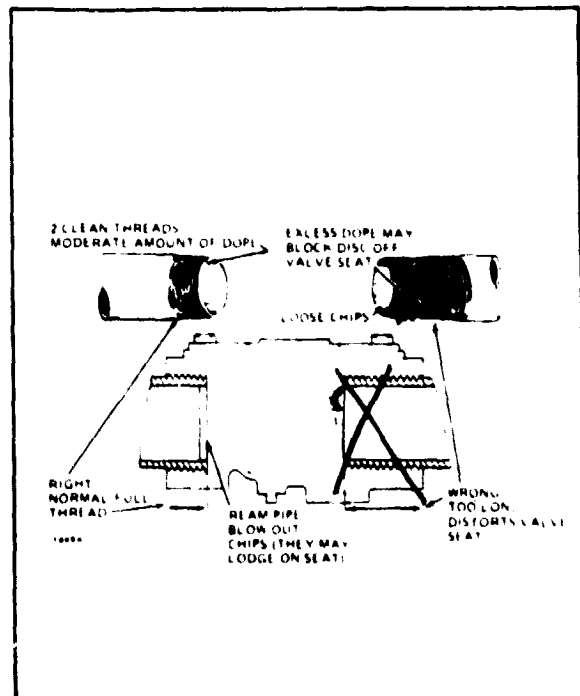
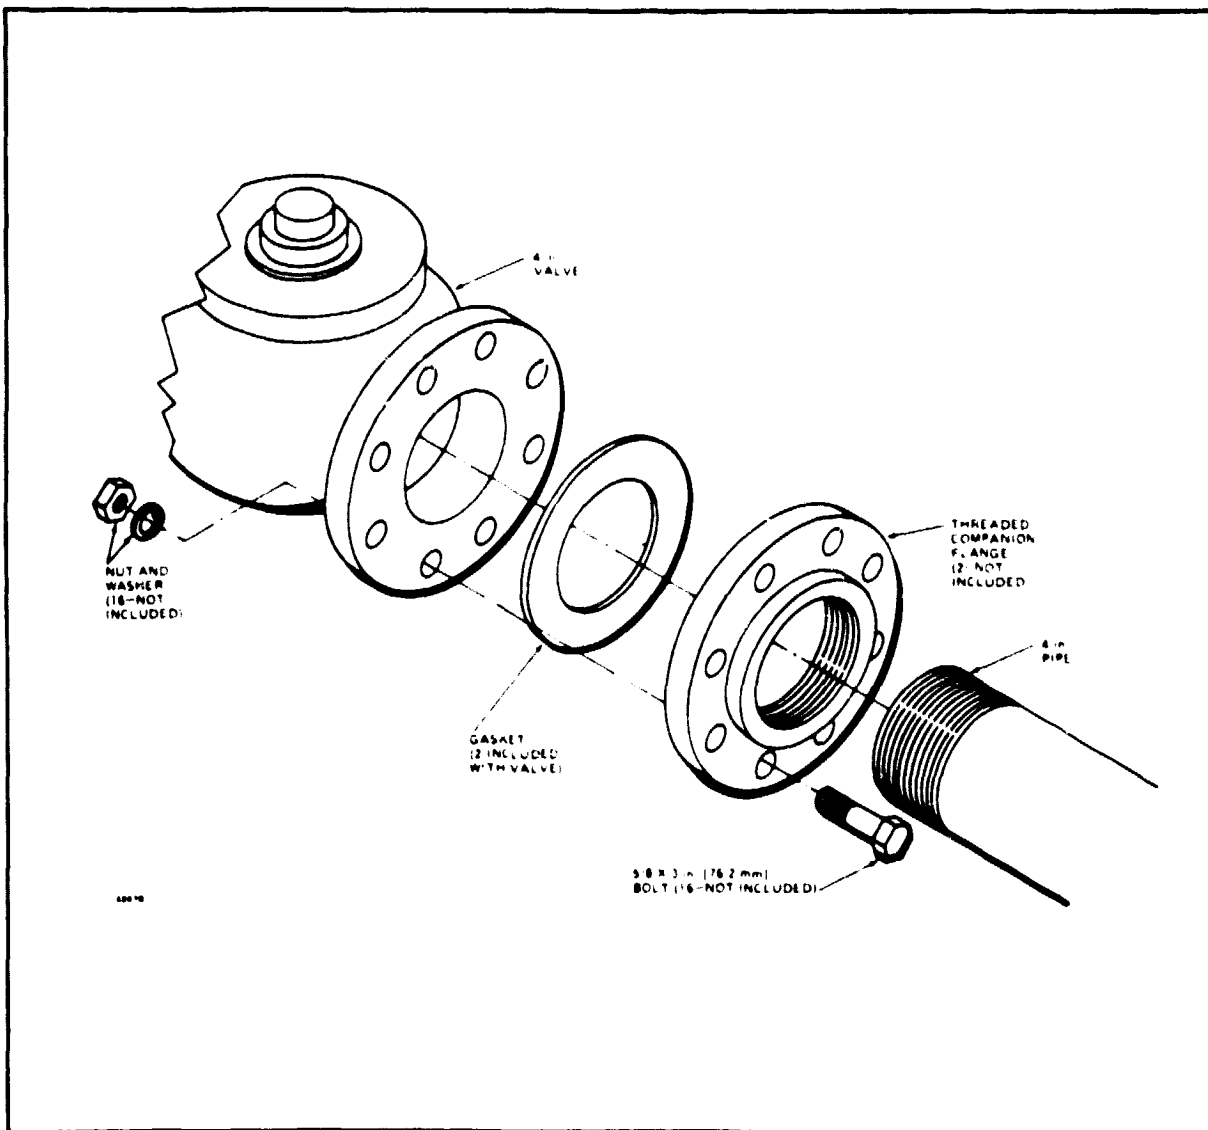

FIG. 4—PREPARING THE PIPES.
FIG. 6—INSTALLING A 4 in. V5055 VALVE.
MOUNTING (FIGS. 4 THROUGH 6)
2. Do not thread pipe too far (Fig. 4). Valve distortion or malfunction may result from excess pipe in valve.
8. Two threaded companion flanges, 2 gaskets (included with valve), and 16 bolts (with washers and nuts) are required for mounting a 4 in. V5055 valve. Mount a threaded flange and gasket on each end of the valve as shown in Fig. 6. Then screw the pipes into the threaded flanges. Apply dope sparingly, and use wrenches and vises properly as shown in Figs. 4 and 5.